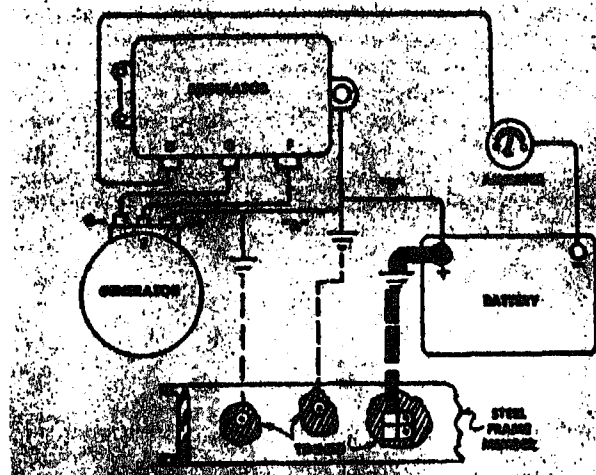

Fig. 13-2-2. Basic generator wiring diagram cut-out relay
3. The basic wiring diagram for a one-terminal, third-brush current-controlled generator used with a cut-out relay is shown in Fig. 13-2-2. Equipment that requires low generator output, such as shovels and power units, will sometimes have this type of generator and cut-out relay.
4. This type of equipment will give satisfactory service provided the G+B+ terminal in the relay is properly grounded to the same frame member used to ground battery, as shown in Fig. 13-2-2, and provided the generator is used only for battery charging.